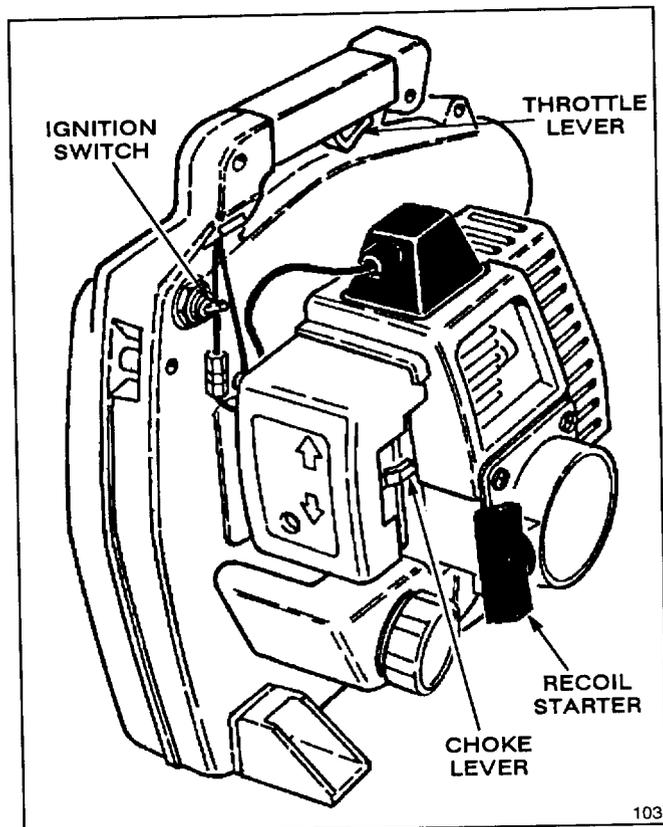

Figure 5
(Fig. 5)
3. Vary engine RPM by operating the throttle lever (Fig. 5). Idle speed, if desired for blowing leaves from a lawn or flower bed, is achieved by leaving the throttle lever in the idle position.